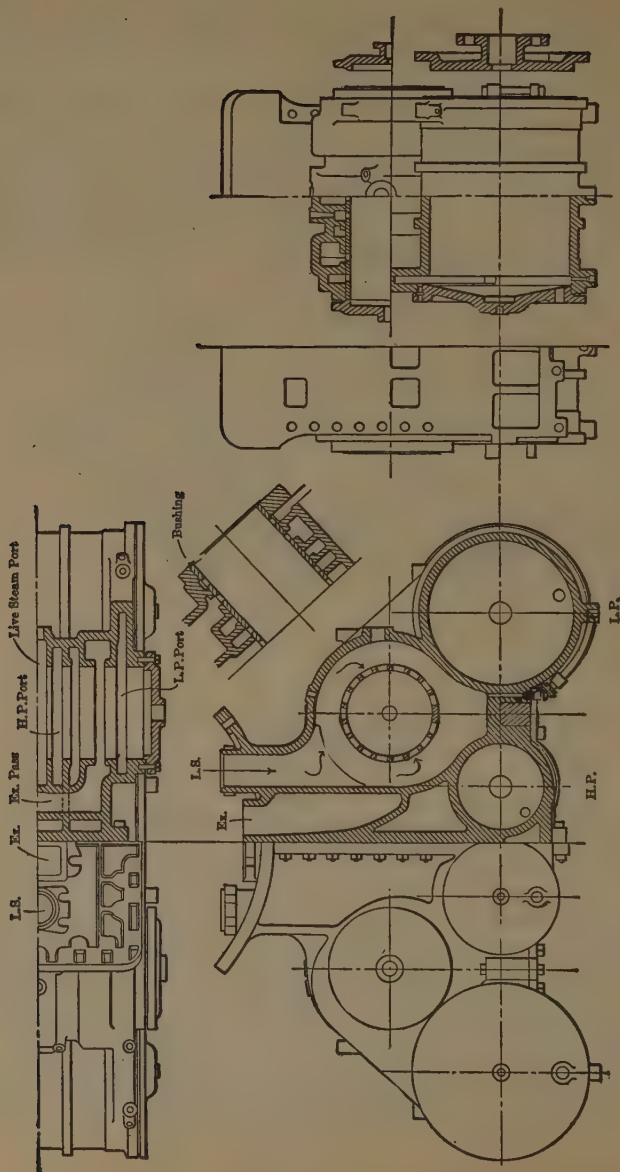
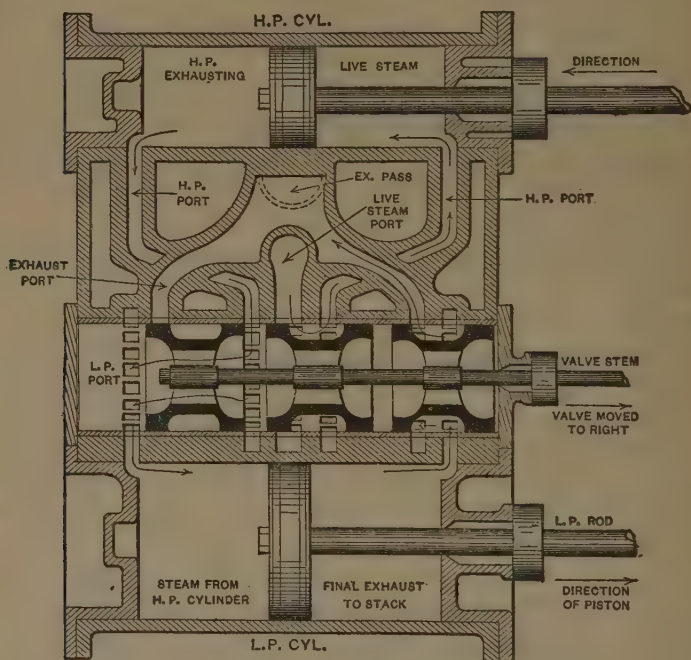

Fig. 362. Sections of Baldwin Balanced Compound.
Fig. 363. Cylinders and Valves of Balanced Compound.
*A. In this (see Figs. 362 and 363) there are two H. P. between the frames and two L. P. outside them; all four axes parallel and in the same horizontal plane. The saddle is in two pieces, each with a H. P. and a L. P. cylinder and a valve chest. The valve is a balanced piston equal in diameter to the H. P. cylinder; the L. P. cylinder has 5.3 the diameter, that is, 2.78 times the area, of the H. P. All valves have "clearance" or negative inside lap, the L. P. having more than the H. P. In Fig. 363 (which is a "scheme" drawing and does not correspond to the real construction) we have the valve in full-port-open position. The pistons of each compound pair move in opposite directions. The valve chamber is seen to have seven ports; one at each end, to the L. P. cylinder, one next inside each of these to the L. P. exhaust passage in the saddle; one in the center for live steam, one each side of that for the H. P. end passages. The valve is composed of three spring-packed pistons, end to end, in line on a common stem, and travels in a bush; the ports are bridged to prevent the rings getting therein. In the cut the middle valve section *A* has opened the right-hand or back H. P. port to the central or supply port *B*, so that the H. P. piston is going to the right. The right-hand valve section *C* has opened the L. P. port *D* to the final exhaust port *E*, so that the exhaust of the right-hand end of the L. P. cylinder can escape into the stack. The left-hand valve section *F* has opened the left-hand L. P. port *G* to the L. P. cylinder (front end) and the middle valve section has opened the H. P. port to the valve center, letting the exhaust from the left-hand*